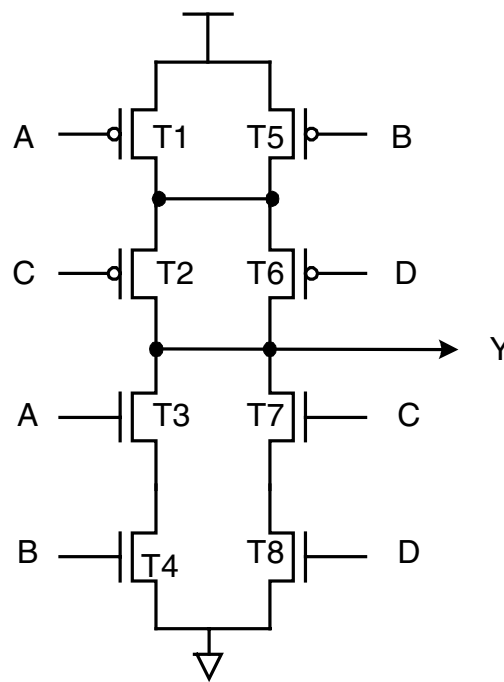

Figure 5
6. a) Deduce the Boolean equation for the circuit shown in *Figure 5*. [4 marks]
- c) By using the circuit shown in *Figure 5*, or otherwise, design a transistor-level circuit of a single-bit scan-path register. [8 marks]